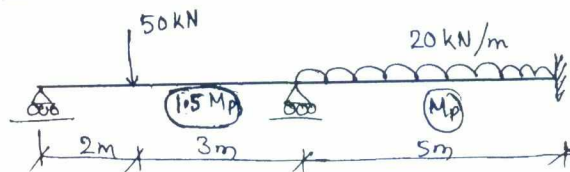

Fig Q4(c)
- c. Determine the plastic moment capacity (M_p) for the beam loaded as shown in Fig Q4(c). Use load factor 1.6. (10 Marks)